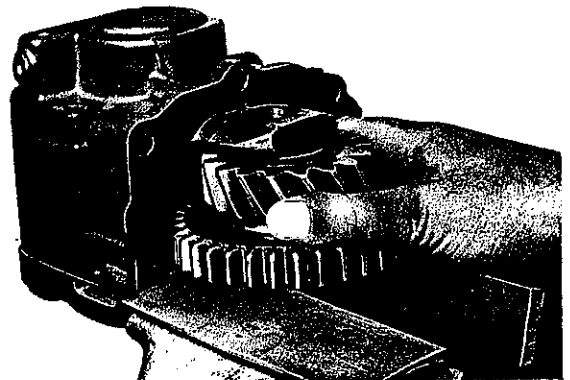

Fig. 20
2. Remove double gear. Press-out bolt (37) in direction of transmission output end (push against closed end of bolt) and remove double gear (35) with roller bearing (34) and washer (36) (Fig. 20).